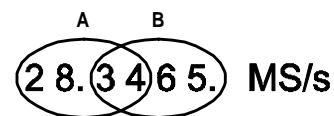

Figure9. Symbol rate low and high-resolution display
Symbol Rate: (see Figure 9) For example; if the current Symbol Rate is 28.3465 Msymbols/s, changing to Alt-1 Mode (ALT LED flashes) and then pressing 5 displays the four most significant digits on the front panel (i.e., 28.34). At low resolution (A), pressing the up \uparrow or down \downarrow arrow button advances the Symbol Rate up or down in 10 Kbit/s steps (i.e., 28.35, 28.36, and so on). Pressing and holding down the up \uparrow or down \downarrow arrow button will increase the step size further.